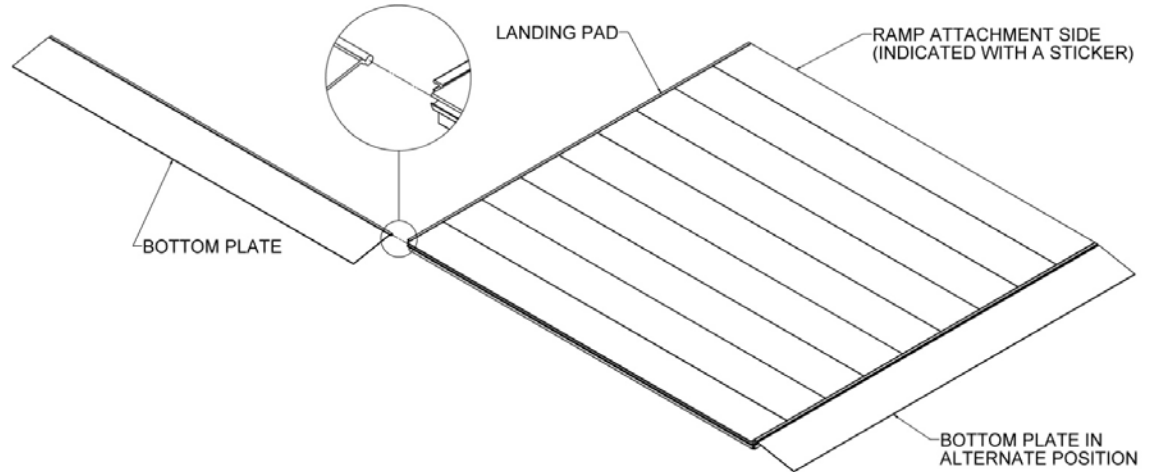

FIG. 7.5
7.4.2. Slide the bottom plate into one of the three available slots (FIG. 7.5).